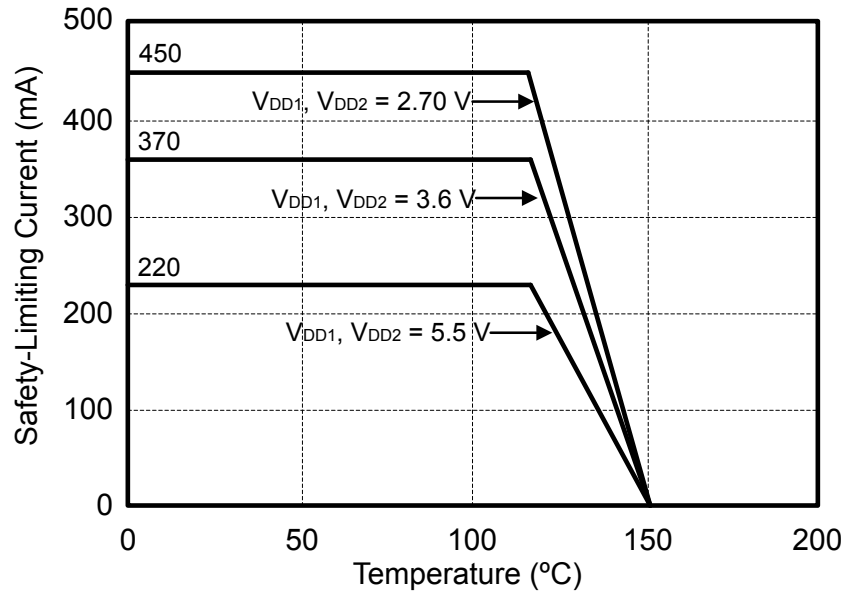
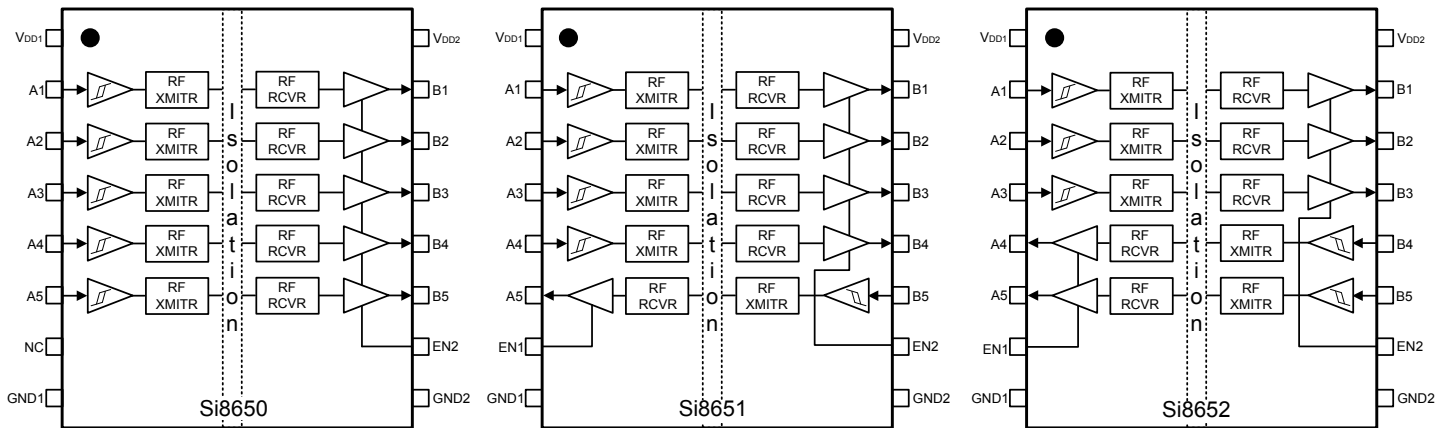

Figure 4.4. (WB SOIC-16) Thermal Derating Curve, Dependence of Safety Limiting Values with Case Temperature per DIN EN 60747-5-2
Figure 5.4. Si865x Pin Descriptions
1. Maximum value allowed in the event of a failure; also see the thermal derating curve in Figure 4.4 Figure 5.4 on page 28, Figure 4.5 Figure 5.5 on page 28 and Figure 4.6 Figure 5.6 on page 29.